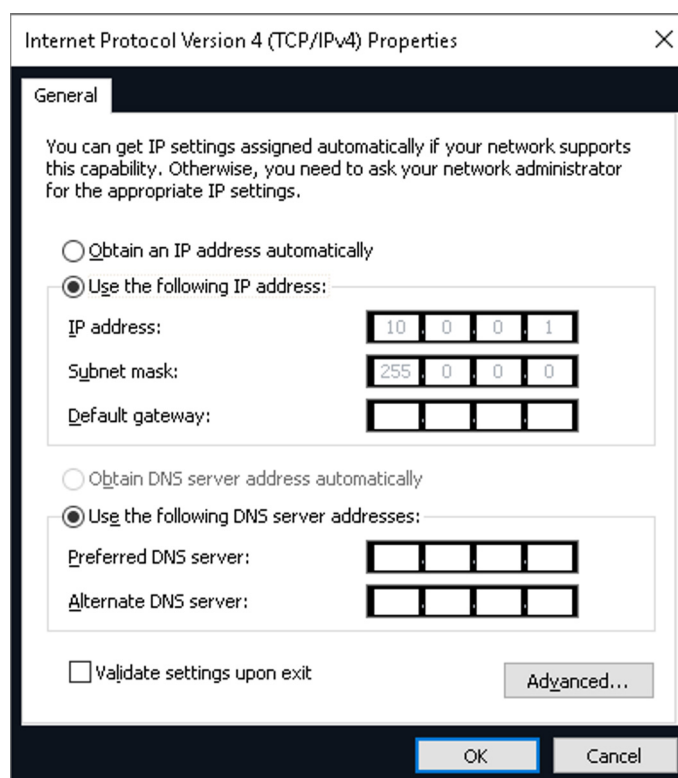

Figure 3-23 Internet Protocol Version 4 (TCP/IPv4) Properties Screens
- 5.) Select **Use the following IP address** and proceed as follows (refer to Figure 3-23):